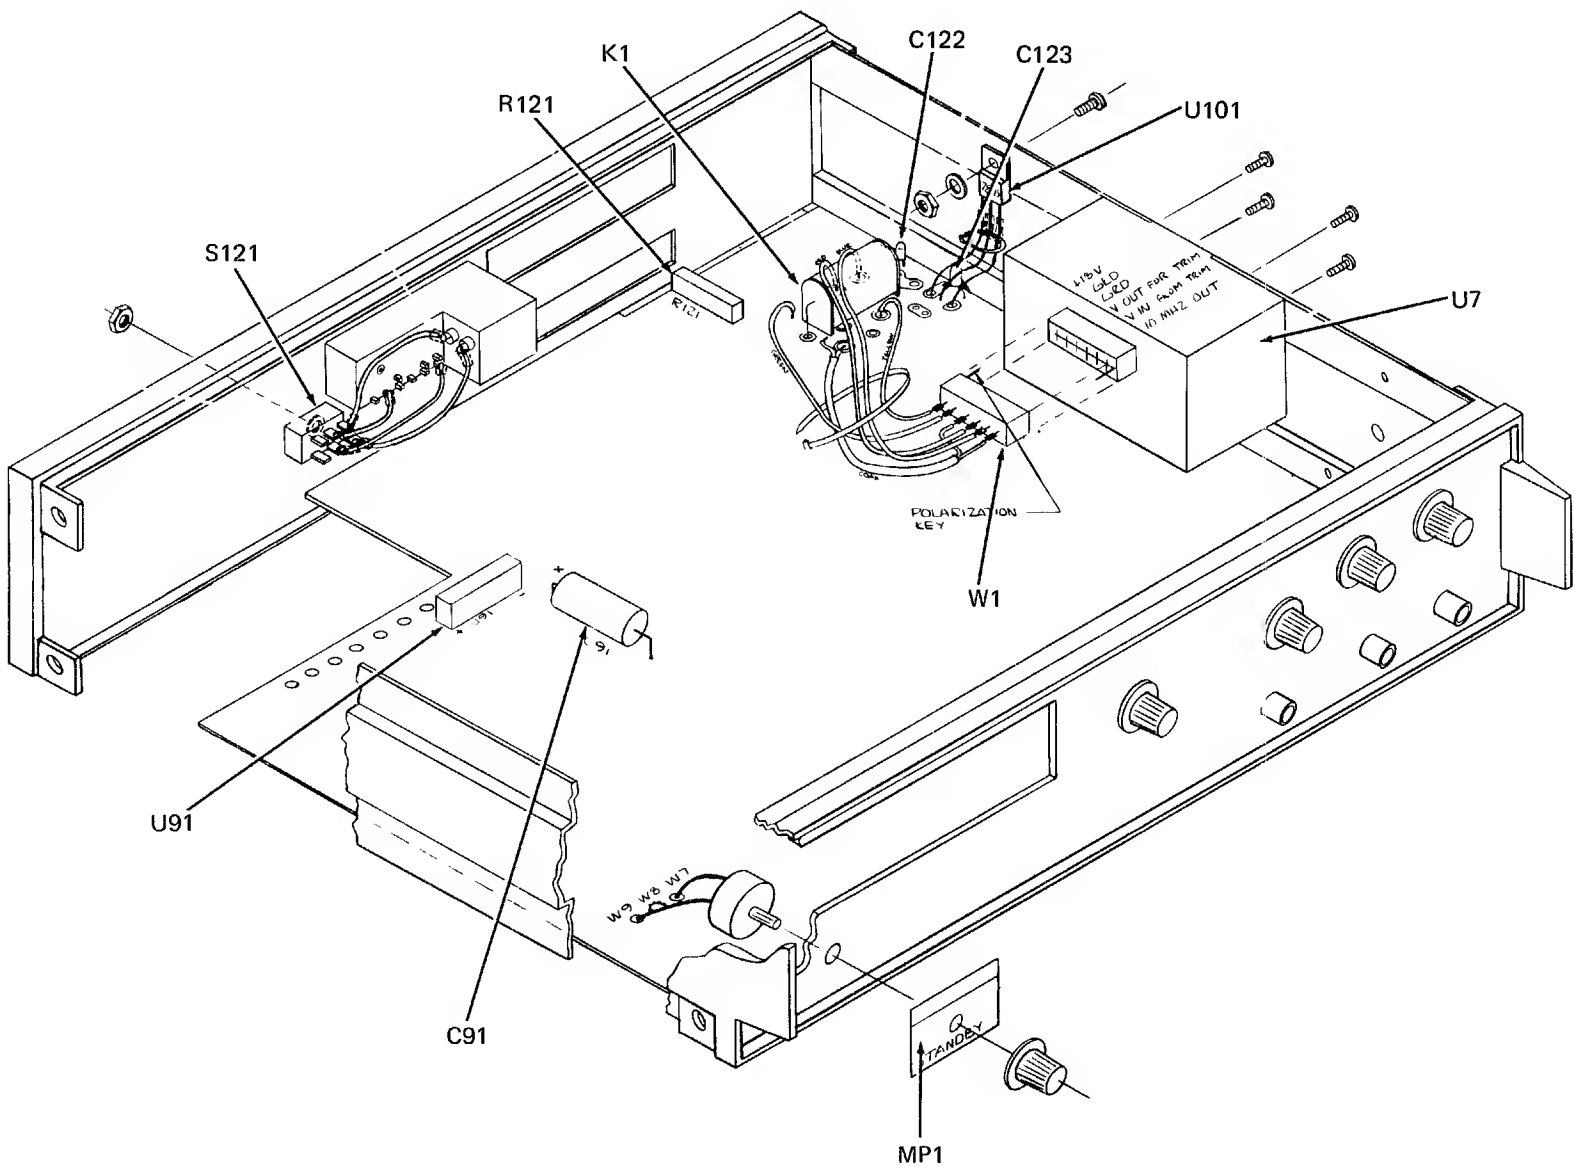

Figure 610-1, -10 Option, Oven-Stabilized Time Base
-10	OVEN-STABILIZED TIME BASE, OPTION -10 FIGURE 610-1